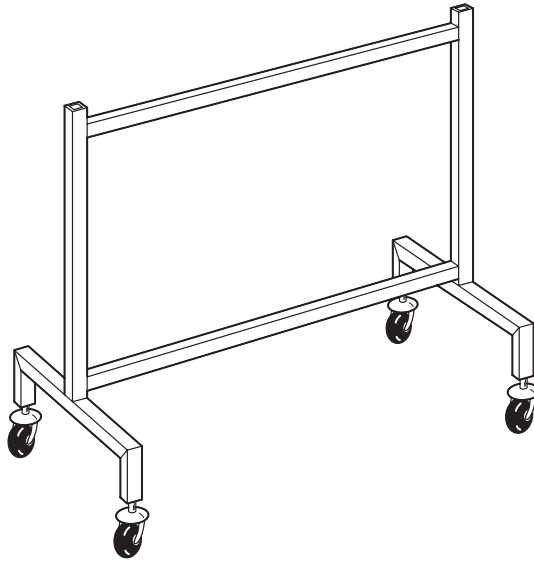

Fig. 9
- 4 Fig. 9 shows an example of a clothes rail used in a high street store.